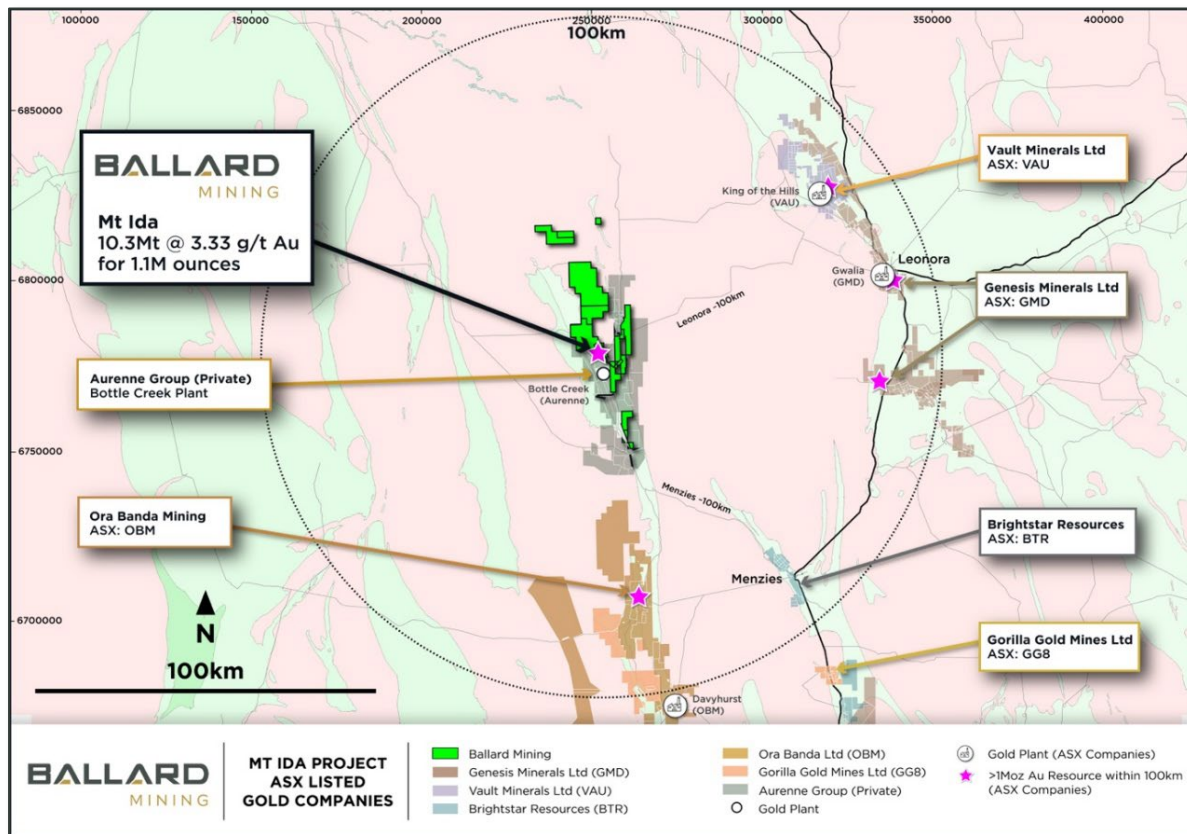
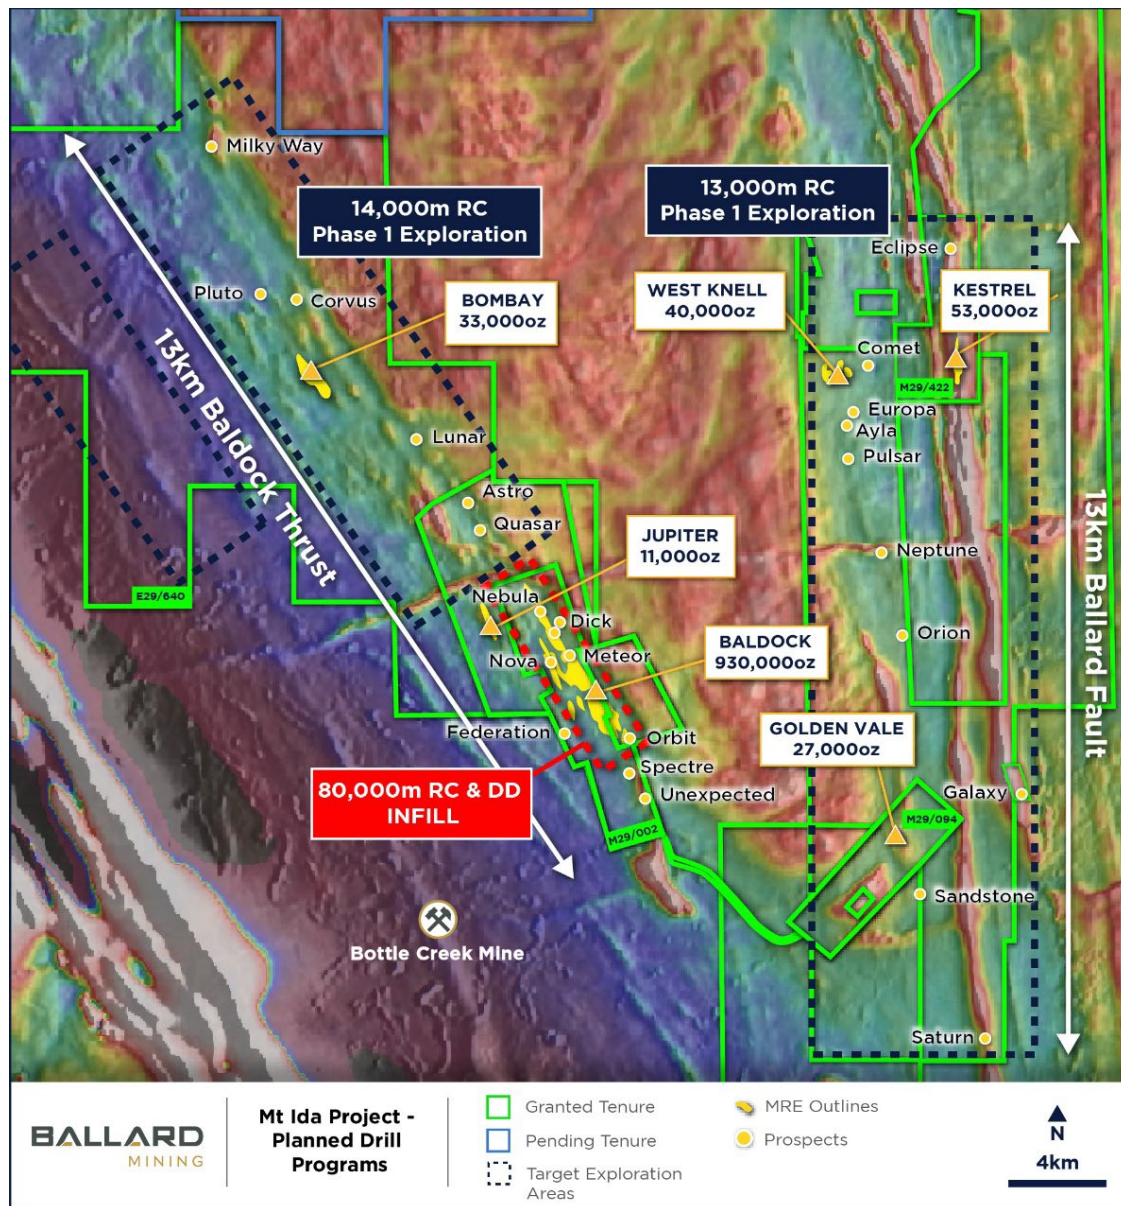

Figure 5 Ballard's Mt Ida Gold Project, located in Western Australia's Goldfield Region.
Figure 6 – Mt Ida identified Au prospects with planned infill and Phase 1 exploration programs
**Ballard Mining (ASX:BM1)** (“**Ballard**” or “**the Company**”) is pleased to provide an update on extensional and infill drilling programs at its Mt Ida Gold Project located 540km northeast of Perth in the Goldfields region of Western Australia (Figure 5). The Mt Ida Gold Project covers 26km of prospective greenstone belt, folded around the Copperfield Granite (Figure 6).
The first three of an initial 18 exploration targets have now been drill tested as part of a staged drill program (Figure 6). These 18 prospects are the basis for the first pass Phase 1 exploration program while Phase 2 will focus on follow up drilling from Phase 1 as well as additional targets identified via the detailed structural interpretation of the high-resolution drone mag survey.
A 130,000m drill program is underway across the Project, targeting highly prospective and underexplored zones along the 26km strike of both the Baldock Thrust and the Ballard Fault (Figure 6).